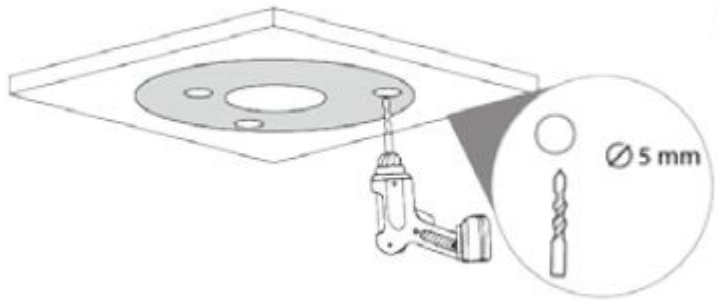

Figure 2-1
Step 1 Take the device position map and place it on the mounting surface. Drill holes using the position map as a guide. Be sure to set the angle accordingly to the cable exit. If using installation surface as cable exit, drill the exit hole accordingly. See Figure 2-1.